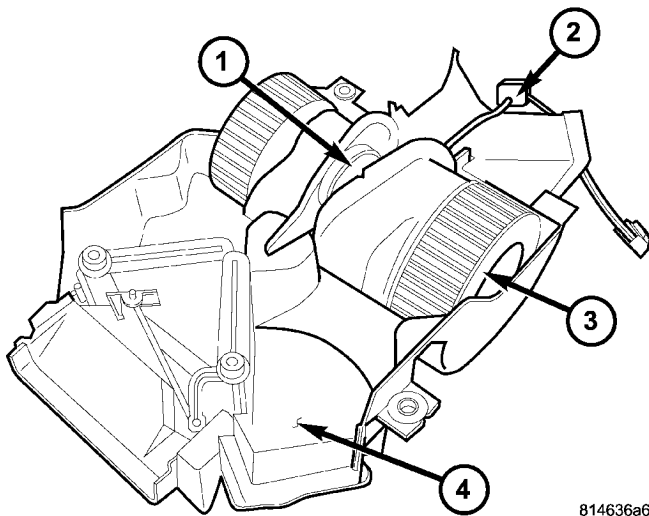

Fig. 1 Rear Blower Motor
Vehicles equipped with 4 passenger seating and automatic temperature control (ATC) heating-A/C system, use a 12-volt, direct current (DC) rear blower motor. The rear blower motor has an integral wire harness and two squirrel cage-type blower wheels that are secured to the blower motor shaft (Fig. 1). The blower motor and wheels are contained within the two halves of the rear blower motor housing, which is located under the front center floor console cover.